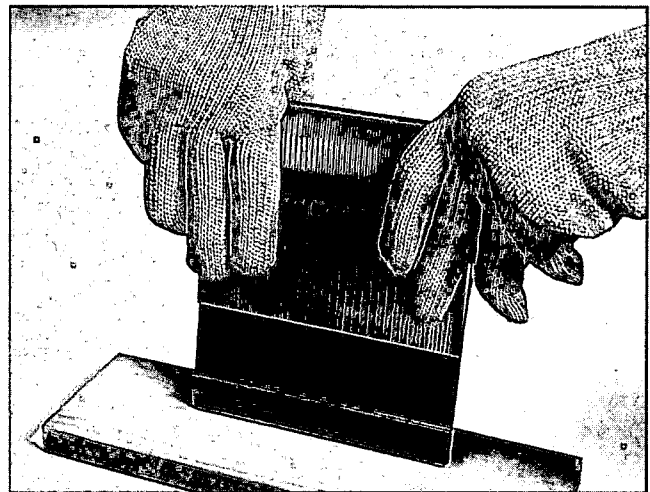

Figure 27 — Installing the slicing knife in the slicing knife holder.
2. **Install slicing knife in holder:** With slicing knife edge on a block of wood, push down on the holder to force the knife all the way into the slot (Figure 27). Knife should be centered in the holder. Press down on knife again making sure it is seated properly in the slot.